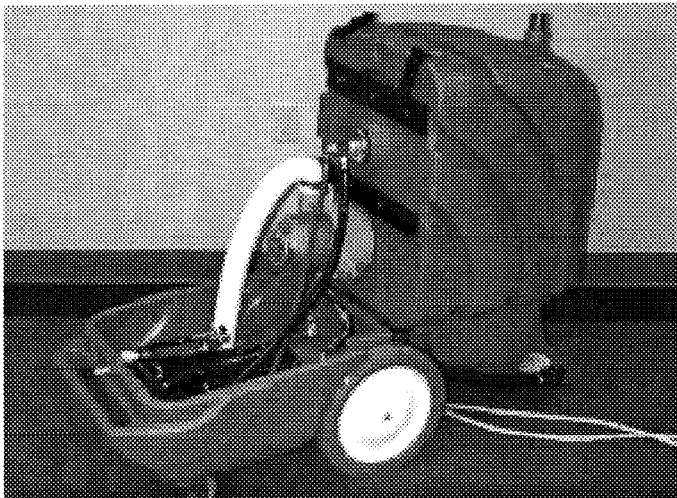

Fig. 9
- c. Lift tank upward, away from chassis. (Figure 9)